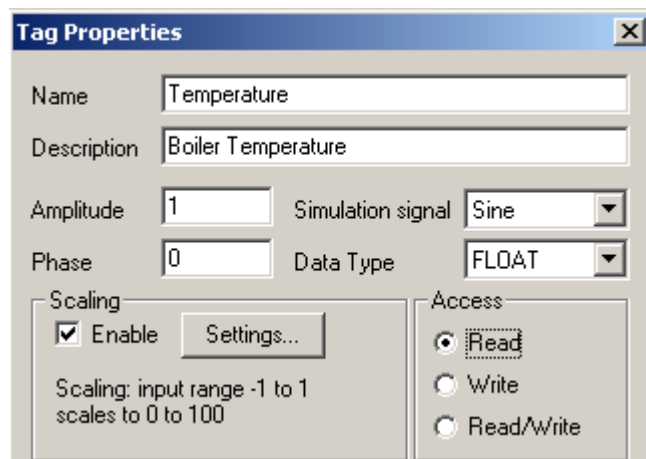

Figure 4 - Sine Tag Settings
9. Specify a name for the tag (for example, "Temperature") and configure the Amplitude, phase, Simulation Signal, and Data Type of the tag. You can configure your tag similar to the settings in Figure 4.